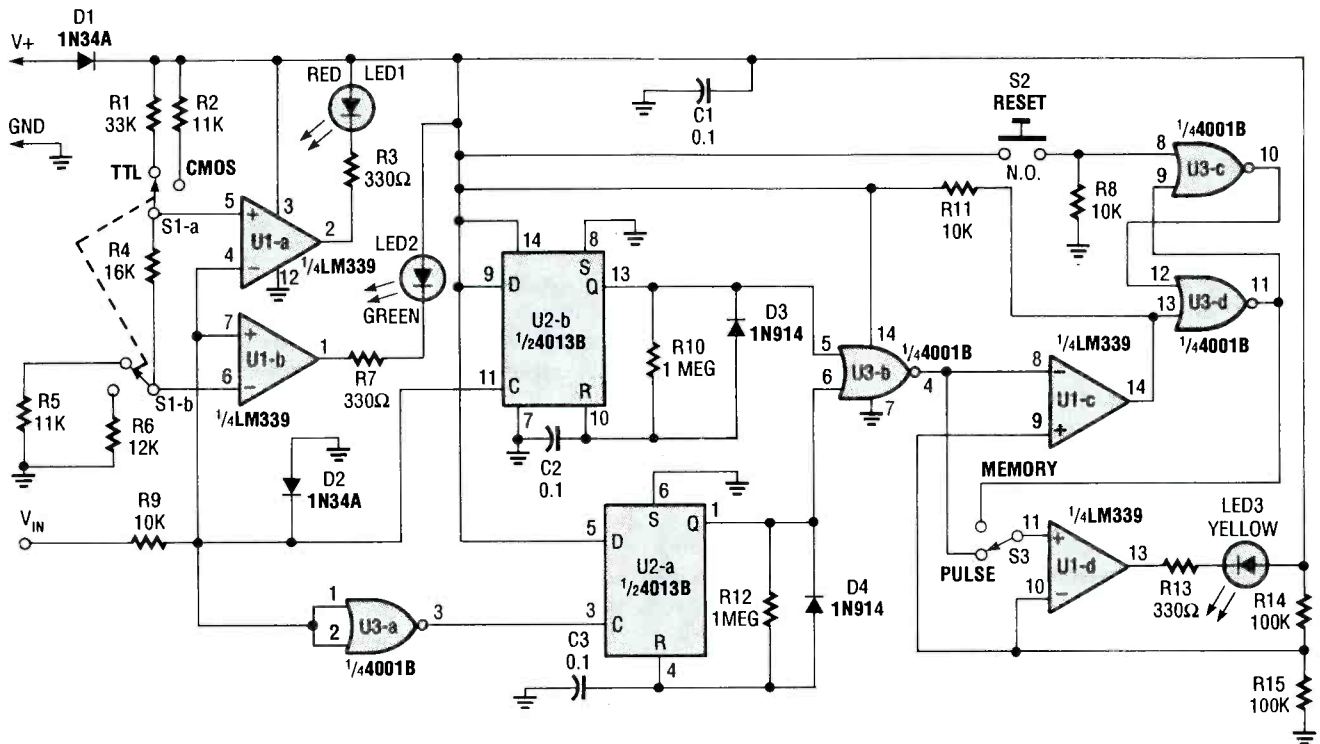

Fig. 1. The Experimenter's Logic Probe detects high and low logic levels, and level transitions for both TTL and CMOS integrated circuits.
**Inside the Probe.** Figure 1 is a schematic diagram of the Experimenter's Logic Probe. The circuit contains three integrated circuits—an LM339 quad comparator (U1), a 4013B dual D-type flip-flop (U2), and a 4001B quad two-input NOR gate (U3).